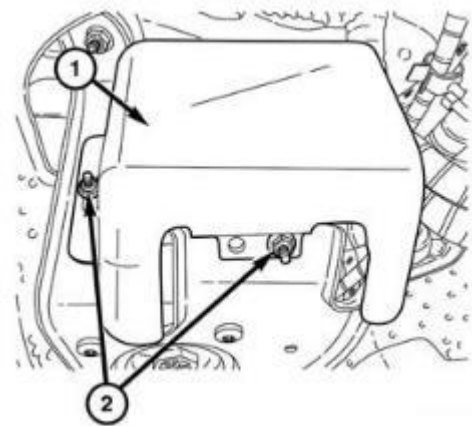

Figure 50 – Fuel Filter Shield
- 93. Remove the nuts (2) and the fuel filter shield (1) (Figure 50).
114. Install the fuel filter shield (1). Tighten the nuts (2) 14 N·m (10 ft. lbs.) (Figure 50).